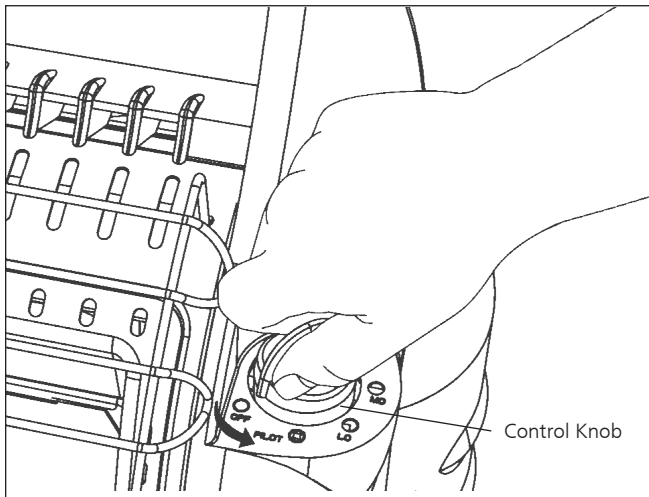

Figure 1
- Make sure five-position Control Knob is in "OFF" position; see Figure 1.
- Make sure five-position Control Knob is in "OFF" position; see Figure 1, at left.